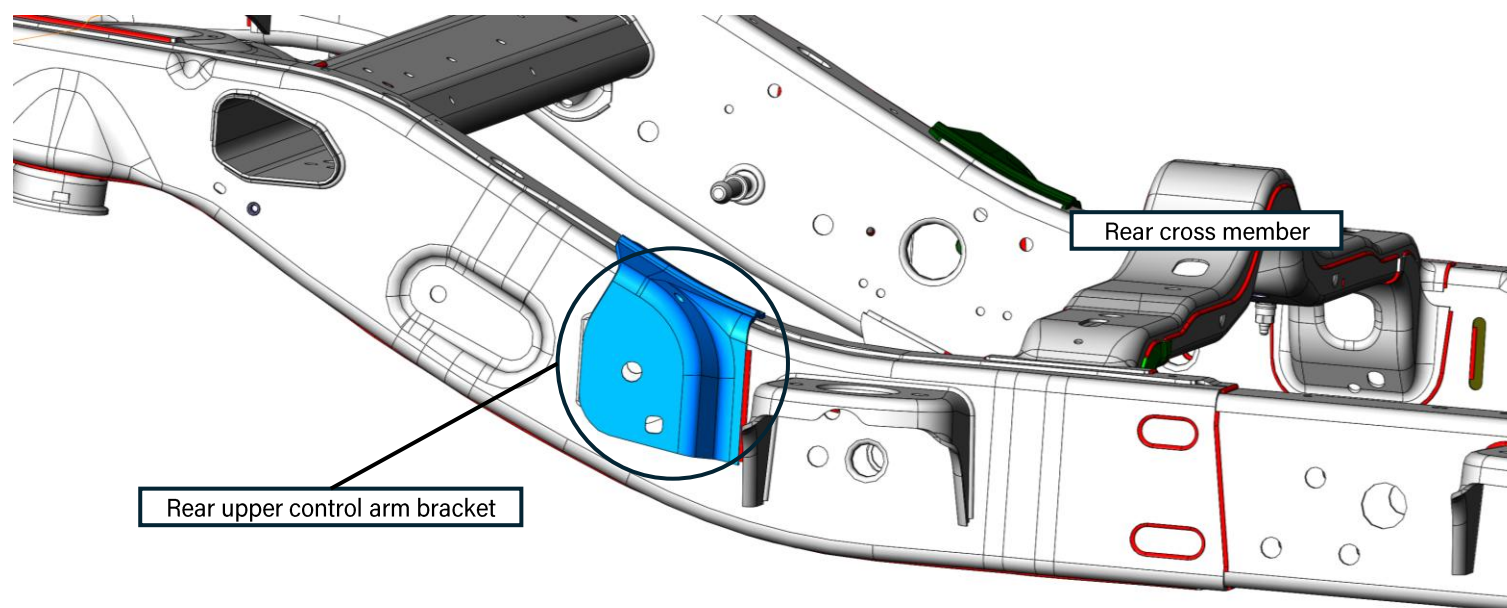

Figure 14: CAD model of original rear upper control arm bracket location (rear lower bracket already removed)
9. Remove both rear upper control arms and begin cutting off the upper control arm brackets from the frame. It is recommended to cut the bracket just below the weld and then grind the weld flat. Using a plasma torch may be easiest. Complete this step for both sides. See Figure 14 for the rear upper control arm bracket on the passenger side of the vehicle (highlighted in blue).